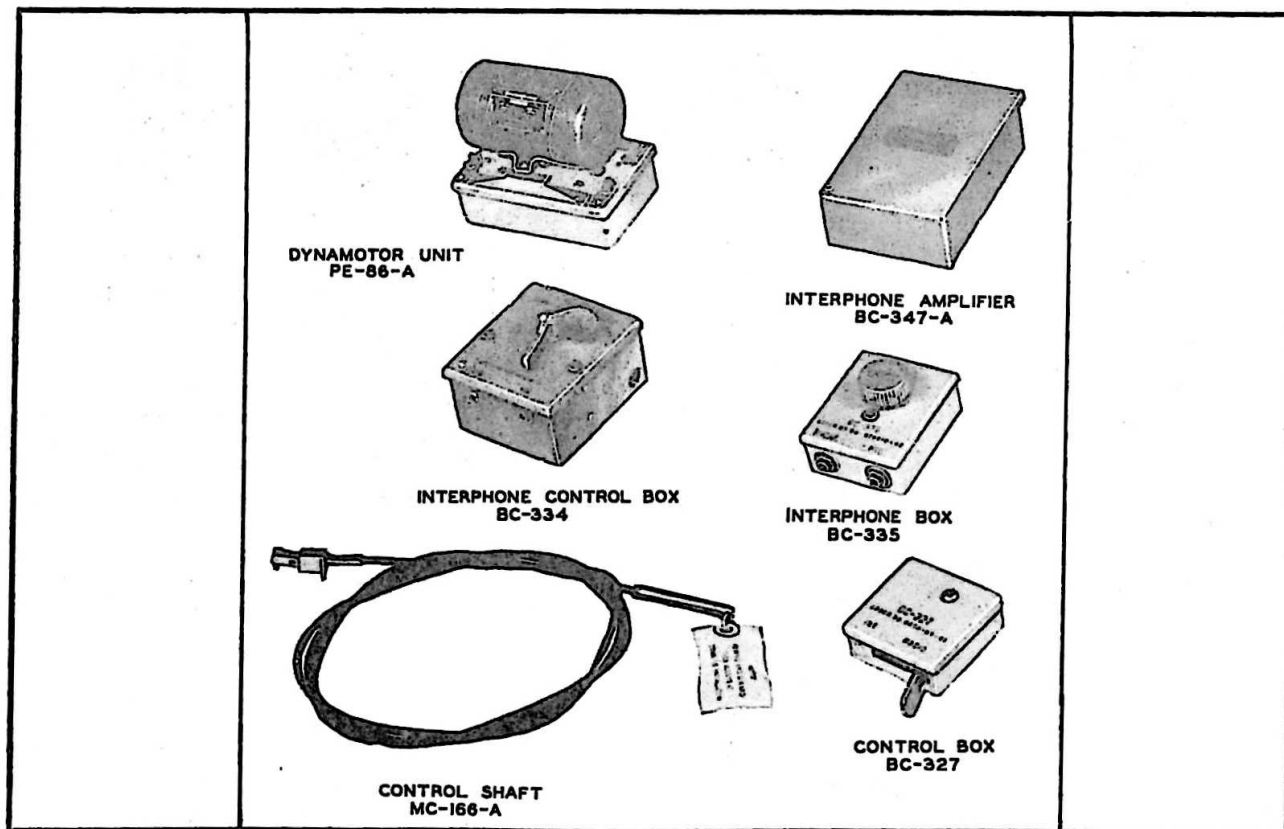

Figure 2-1. Interphone Equipment RC-35—Major Assemblies
a. Interphone Equipment RC-35 is a two-place interphone equipment for basic training aircraft. Electrically it is identical with Interphone Equipment RC-34 which is described in Part I of this Handbook. Mechanically it differs in that Interphone Equipment RC-35 has a remote-control switch which allows the occupant of the cockpit in which Interphone Box BC-335 (Remote) is installed to mechanically operate the switch on Interphone Control Box BC-334 (Master), mounted in the other cockpit. Figure 2-1 illustrates the principal components of Interphone Equipment RC-35.